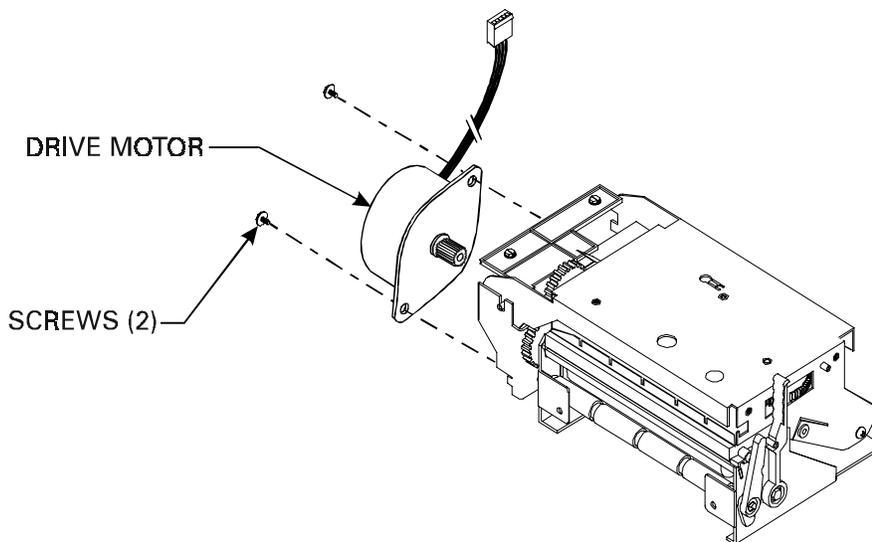

Figure 19. Drive Motor Replacement
7. Remove the two screws that secure the drive motor to the Printhead Assembly (see Figure 19). Slide the drive motor assembly towards the back of the Printhead Assembly so the motor gear can go through the access hole.
1. Install the new Motor with the gear going through the access hole and sliding the motor forward. Secure the new motor with the two screws previously removed. Replace the cable tie which bundles all the harness wires together (see Figure 19).